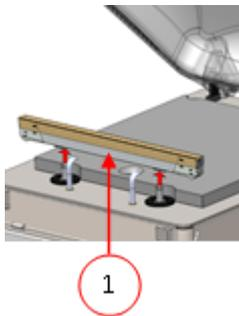
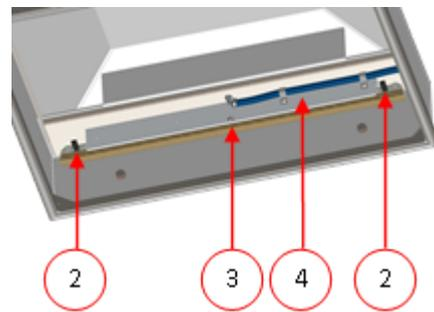

Figure 24: Removing the Sealing Bar (Plastic Lid)
Figure 25: Removing the Sealing Bar (Metal Lid)
On machines with a plastic lid, the sealing bars are mounted on cylinders (Figure 24: Removing the Sealing Bar (Plastic Lid) on page 69). On machines with a metal lid, the sealing bars are mounted in the lid (Figure 25: Removing the Sealing Bar (Metal Lid) on page 69).
1. Remove the sealing bar by lifting it from the cylinders. See *Figure 24: Removing the Sealing Bar (Plastic Lid)* on page 69.
Plastic lid Lift the sealing bar from the cylinders. See *Figure 24: Removing the Sealing Bar (Plastic Lid)* on page 69.
Metal lid See *Figure 25: Removing the Sealing Bar (Metal Lid)* on page 69.